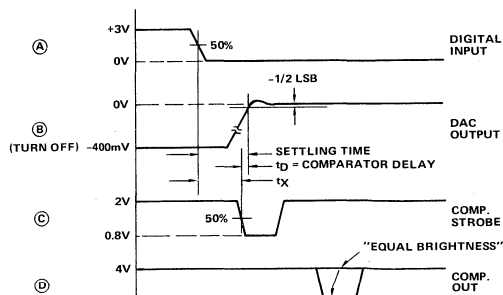

Figure 3B
As shown in Figure 3B, settling time equals t_X plus the comparator delay ($t_D = 15\text{ns}$). To measure t_X ,
- Adjust the V_{LSB} supply for 50 percent triggering at COMP. STROBE OUT. This is indicated by traces of equal brightness on the oscilloscope display as shown in Figure 3B. Note DVM reading.
- Switch the LSB to Pulse (P).
- Measure t_X from scope as shown in Figure 3B. Settling time equals $t_X + t_D$, i.e. $t_X + 15\text{ns}$.